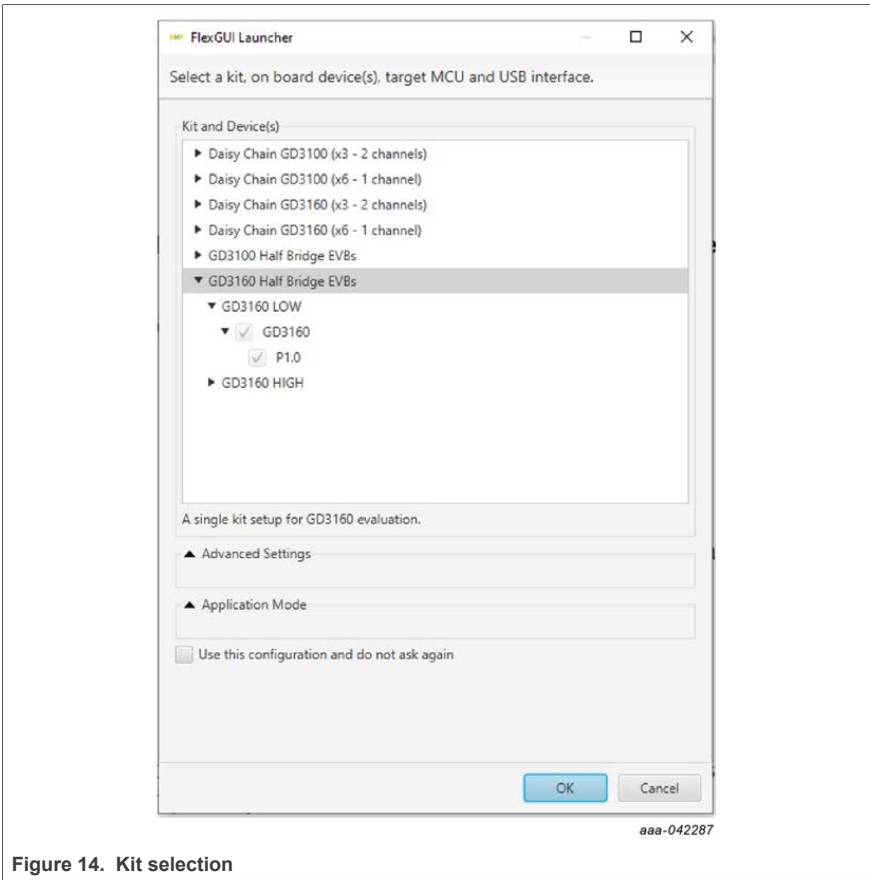

Figure 14. Kit selection
A way to check quickly that the microcode is programmed and the board is functioning properly, is to plug the KL25Z into the computer, open FlexGUI, and verify that the software version at the bottom is 6.4 or later (see Figure 14).
SPI messages can be realized graphically or in hexadecimal format. CSB is selectable to address one or both GD31xx on the board via daisy chain. See Figure 14 to Figure 33 for FlexGUI for GD31xx internal register read and write access.
- When you start the application, Figure 14 allows you to select the target application board, feature set (standard or daisy chain), target MCU, and USB interface. Leave all settings as shown.